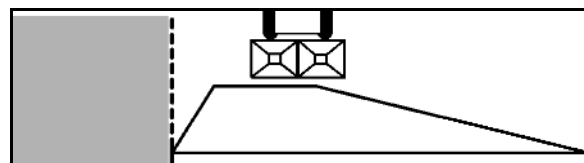

Fig. 70
Two different scales, designed so as to make it impossible to confuse them, are arranged on each spreading disc for precision setting of the individual spreading vane positions (Fig. 70/1 and Fig. 70/2).
- The shorter spreading vanes (Fig. 70/3) are assigned the scale (Fig. 70/1) with values from 5 to 28; the longer spreading vanes (Fig. 70/4) are assigned the scale (Fig. 70/2) with the values from 35 to 55.
- For the short spreading vane (Fig. 70/3), read off the set value on the read-off edge (Fig. 70/5).
- For the long spreading vane (Fig. 70/4), read off the set value on the read-off edge (Fig. 70/6).
- Swivelling the spreading vanes to a higher scale value (Fig. 70/1 or Fig. 70/2) increases the working width.